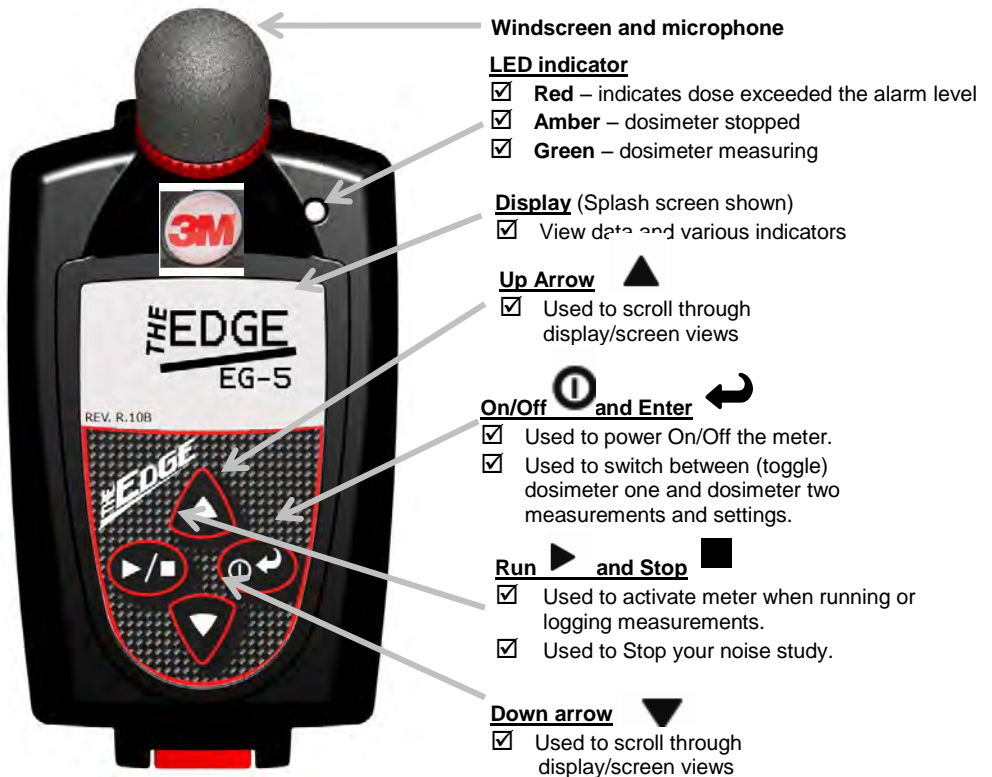

Figure 2-3: Edge Keypad
- The Edge **splash screen** (see Figure 2-3 for an example, page 10) will appear indicating the model (i.e. "eq5") and firmware version. The screen will be in the **measurement view**.